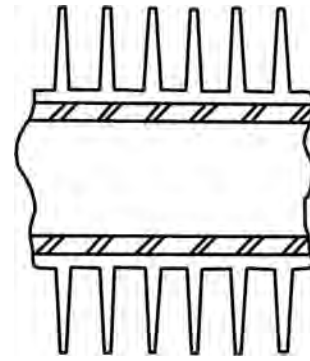

FIGURE 13.3 Extruded fin.
- *Extruded Fins (Figure 13.3):* Fins are extruded from the wall of an aluminum tube that is integrally bonded to the base tube for the full length.